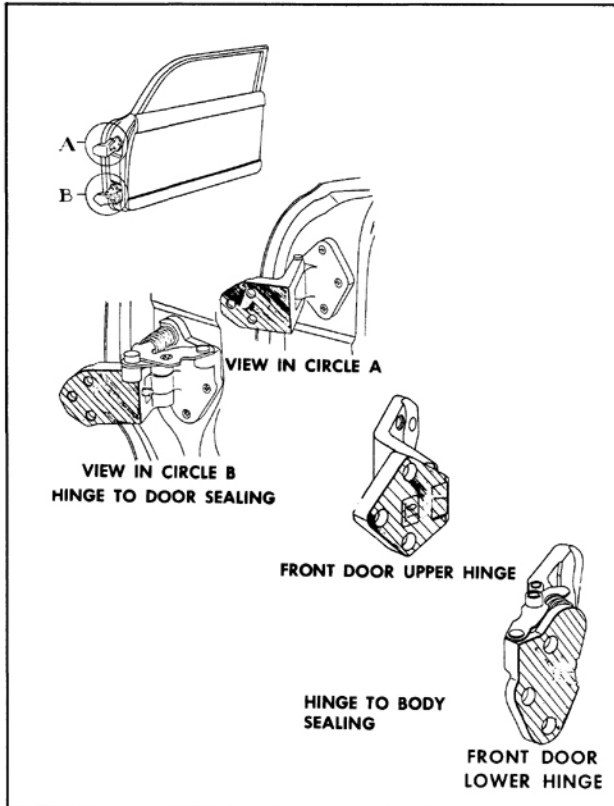

Fig. 16-330 Front Door Hinge Sealing
1. As an anti-squeak precaution and to prevent entry of water into body at hinge attaching screw locations, coat attaching surfaces of hinges with heavy-bodied sealer prior to installing door. (Fig. 16-330)